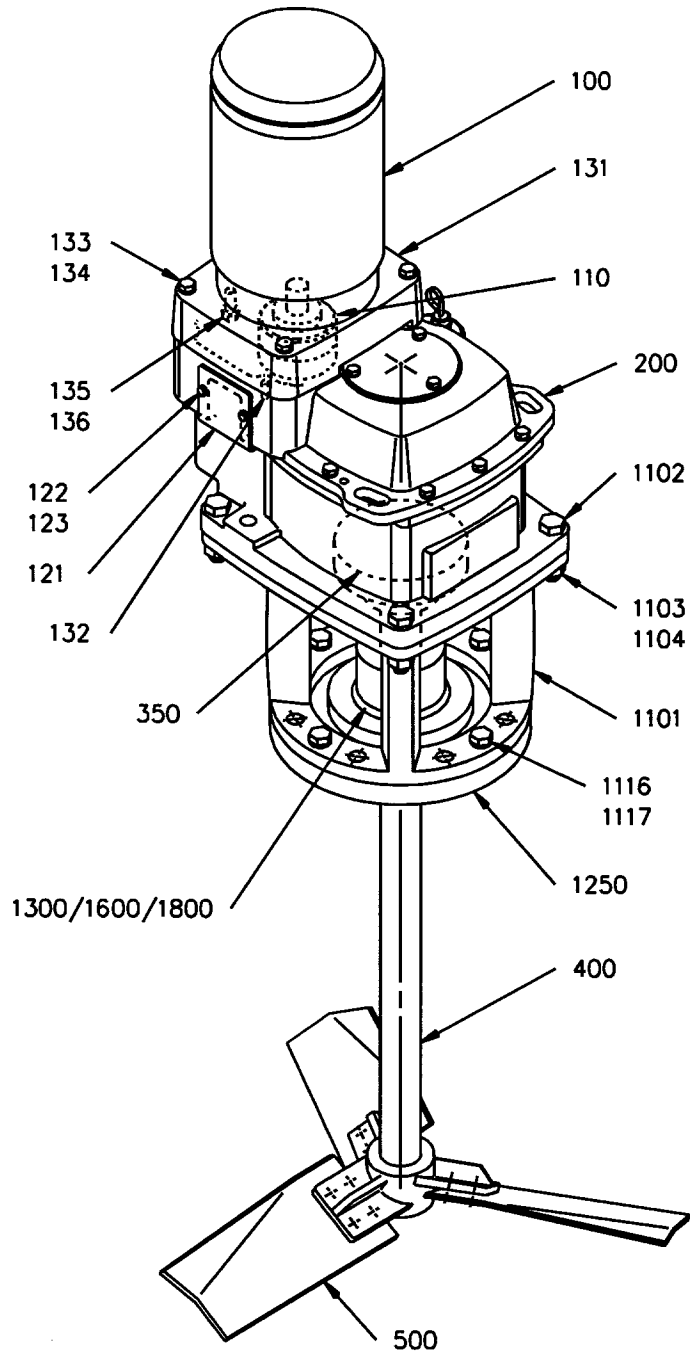

Figure 9: Model GTA, GTL, GTNT Agitator Assembly
1. The GT agitator is shipped in three or more crates: one for the agitator gear drive, (*Figure 9, page 17*), one for the shaft [400] and impeller [500], and typically one for the motor [100]. Optional accessories, multiple shafts, or multiple impellers may be crated separately.
16. Lower the agitator drive assembly onto the pedestal and mount with bolts, lockwashers and nuts [1102, 1103, 1104]. Torque bolts to the value shown in *Table 6*. Refer to *Figure 9, page 17*.